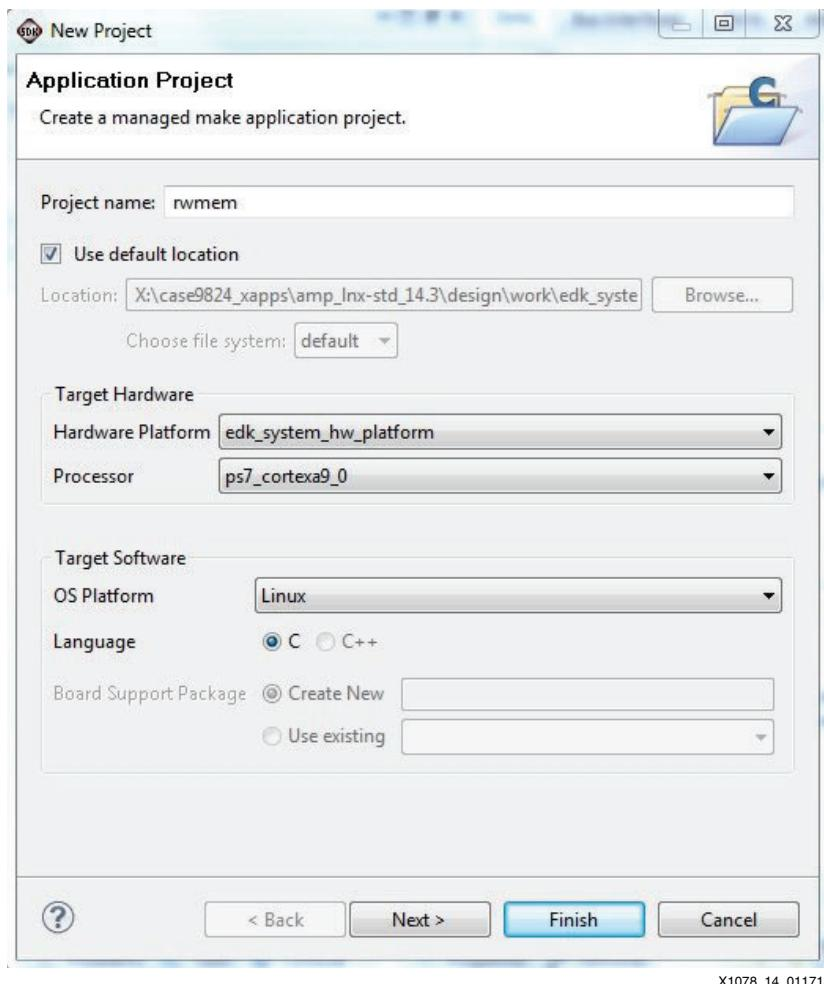

Figure 14: Create RWMEM
1. Create a blank Linux application (Figure 14):